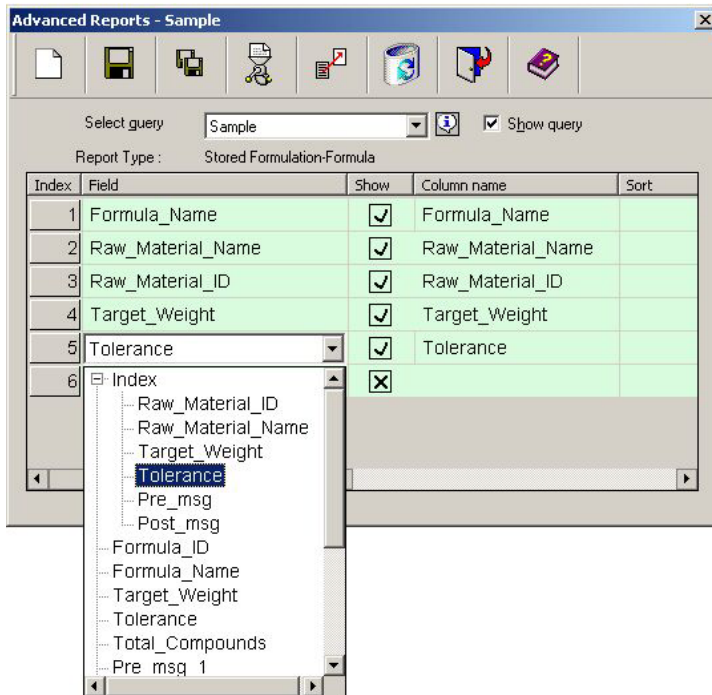

Figure 2
- In the **Field** column of Advanced Reports window, select Formula Name, Raw_Material_Name, Raw_Material_ID, Target_Weight of Compound and Tolerance of Compound all in separate rows. Refer Fig 2.